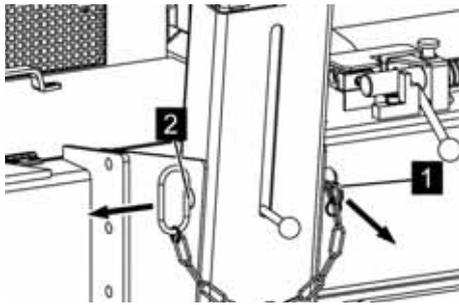

Fig. 75: Fastening bolts
2. ➤ Pull the spring cotter pin (Fig. 75/1) out of the fastening bolts (Fig. 75/2).
3. ➤ Pull out the fastening bolts (Fig. 75/2).